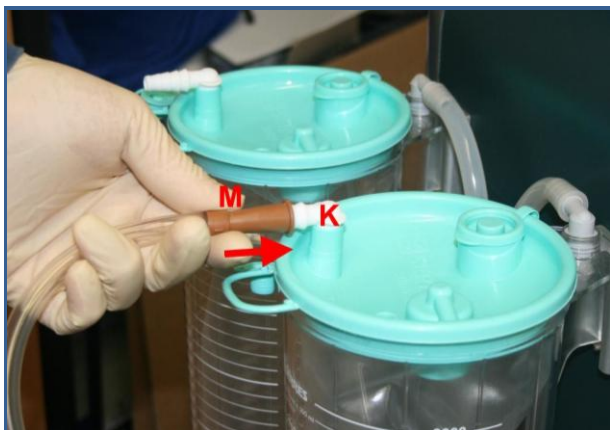

Fig. 4-26: Attach the suction tube
Push the suction tube (M) of the WAL/ Biofill™ applicator firmly onto the angle connector (K) of the suction bag (Fig. 4-26).